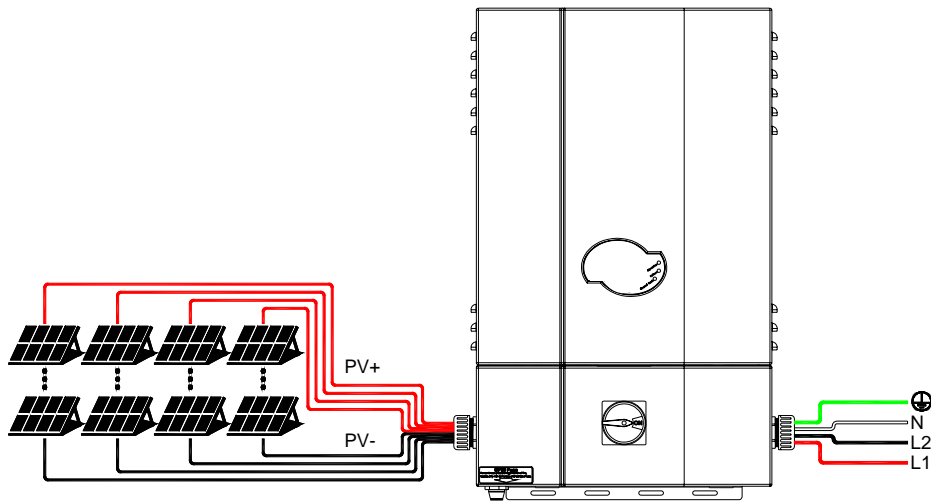

Fig 2.3.11 PV- String connections and AC connections
- There are up to four (4) independent PV strings (4 pairs) can be connected to the PVI 4000-5300 inverter as shown in the figure 2.3.11. The PV strings will be connected in parallel in the wiring box. Therefore, these four (4) PV strings shall be the same in capacity (or at least the same total voltage).